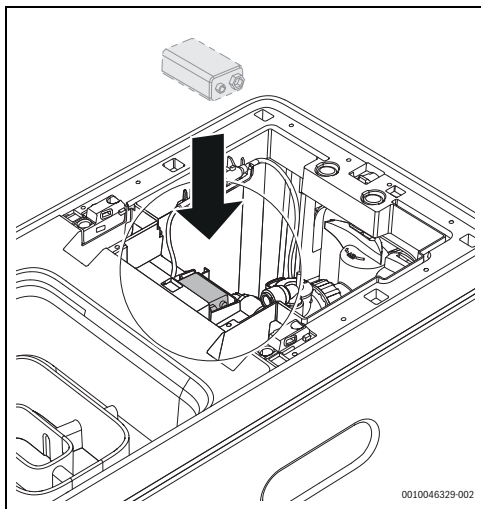

Fig. 8 Connecting the battery
- Open the top cover and connect the 6LR61 9V battery to the valve (→Fig. 8).